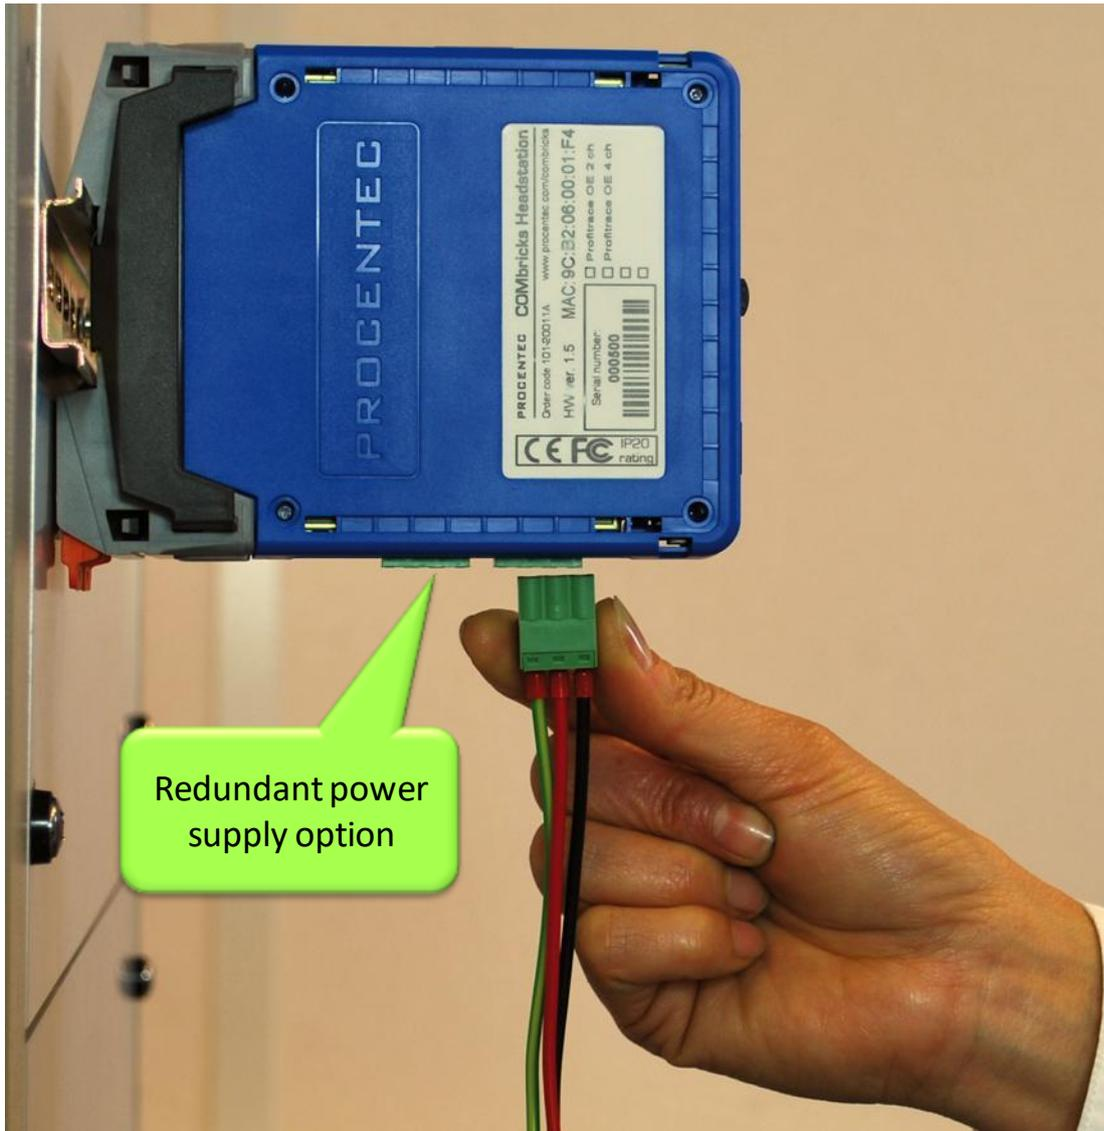

Fig. 23 - Head Station power supply
**STEP 3:** Insert the entire connector block in the power socket (see **Fig. 23**).